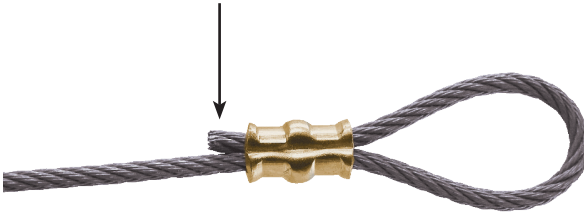

Figure 6
2. Next, insert cable end through the sleeve and at least 1/8" or more beyond (**Figure 6**).
Place sleeve to be compressed in cavity of swaging tool. Length of cable equal to the cable diameter should extend beyond length of sleeve to achieve maximum holding. (See arrow in **Figure 6**)